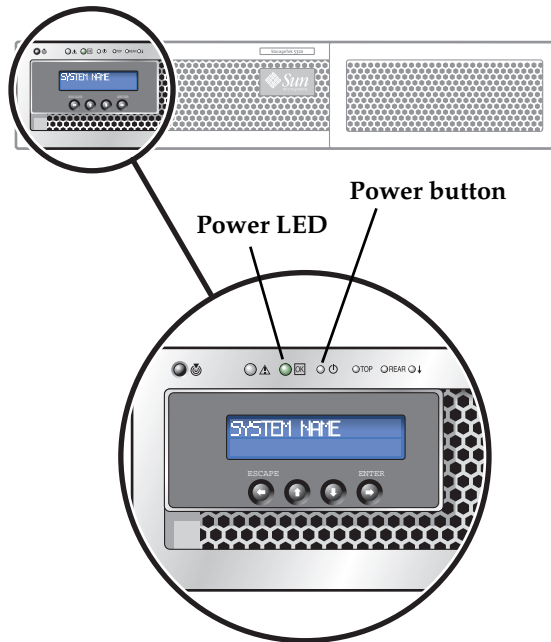

FIGURE 3-15 Power Button and Front Panel Detail
5. Using a pen tip or similar implement, press the recessed Power button (FIGURE 3-15).
If necessary, use a pen tip or similar implement to depress the button. Refer to FIGURE 3-15 for a detailed view of the front panel.
Refer to FIGURE 3-15 for a detailed view of the front panel.